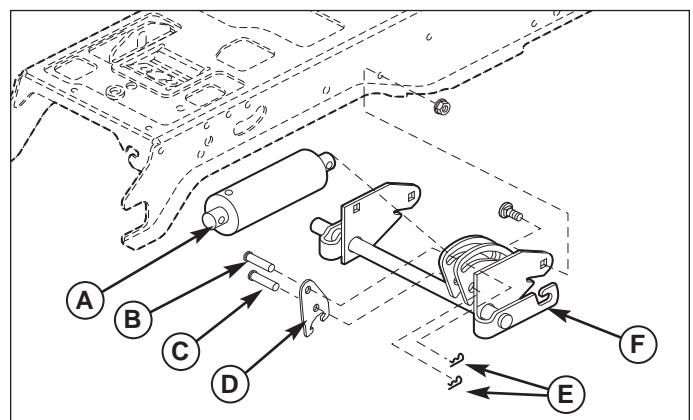

Figure 7. Install Lock Plate - Hydraulic Lift Models
2. Remove and retain the flat head pin (B, Figure 7) and hair pin clip (E) securing the lift cylinder (A) to the lift shaft assembly (F). Remove and retain the flat washers.
3. Mount the lock plate (D) next to the cams on the lift shaft assembly (F) as shown.
4. Install the original flat head pin (B) and new flat head pin (C) and secure with hair pin clips.